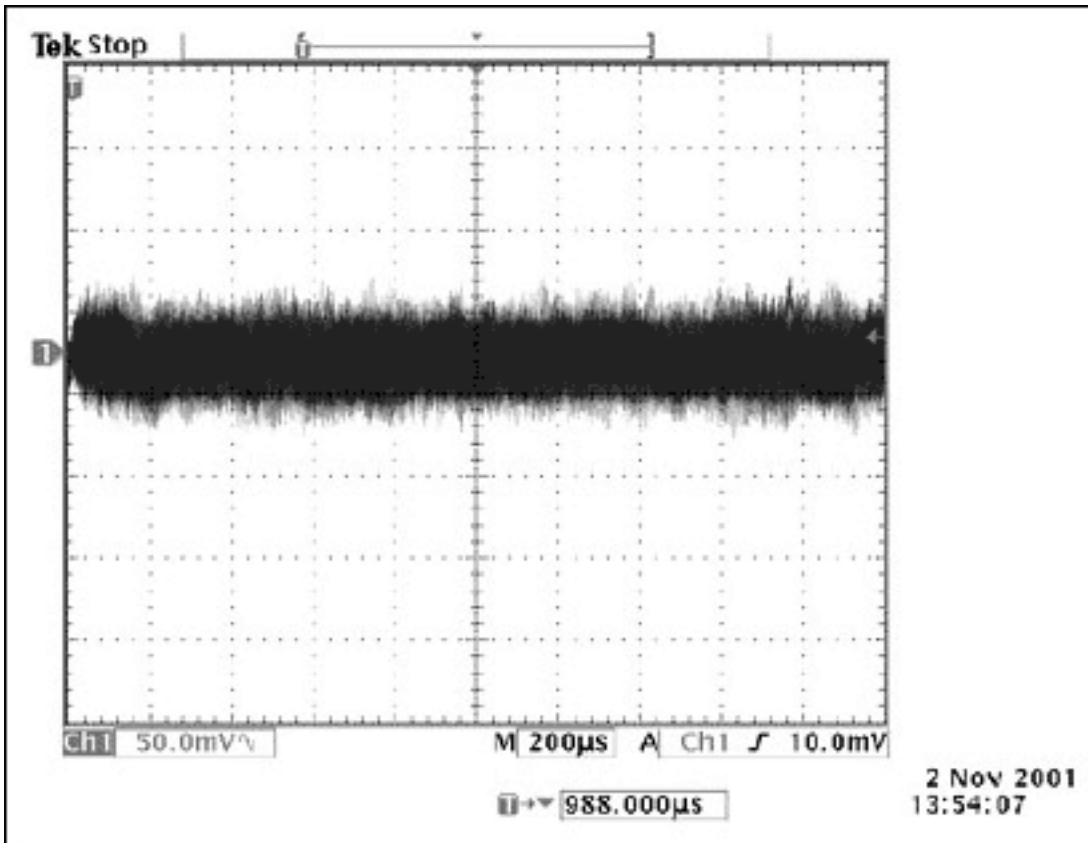

Figure 5. Output voltage ripple. Vout=71V, Iout=1mA. With 1 $\mu$ F output capacitor. Vertical: 50mV/div. Horizontal: 200 $\mu$ s/div.
**Figure 5** shows the output ripple at 71V with a 1mA load current at the output with 1 $\mu$ F of ceramic bypass capacitor. The low-noise characteristics of this device are evident from this oscilloscope shot. Output ripple is less than 100mV (see Figure 5).